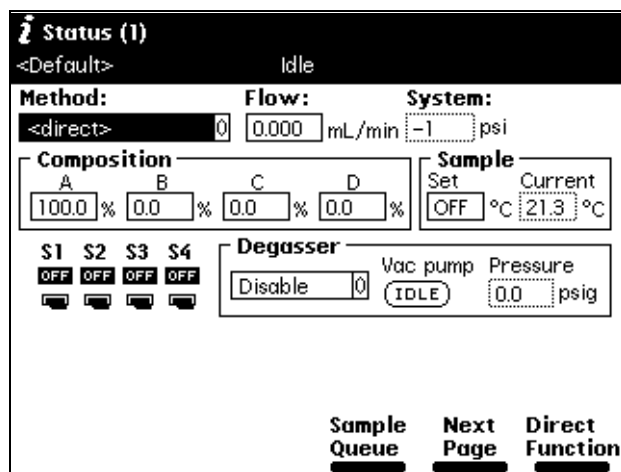

Figure 4-3 First Page of Status Screen
You can use the Status screen to monitor the current status of your HPLC system during a run. Press **Menu/Status** to display the first page of the Status screen (Figure 4-3). The content and layout of the Status screen vary with the options installed in the Separations Module and with the mode of operation.
1. Press **Menu/Status** to display the Status screen (Figure 4-3).